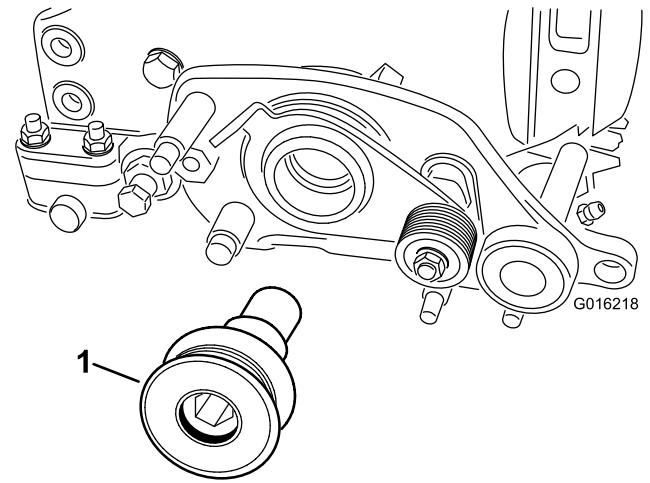

Figure 8
19. Secure the groomer drive pulley to the reel shaft (Figure 8) and torque it to 170 N-m (125 ft-lb).